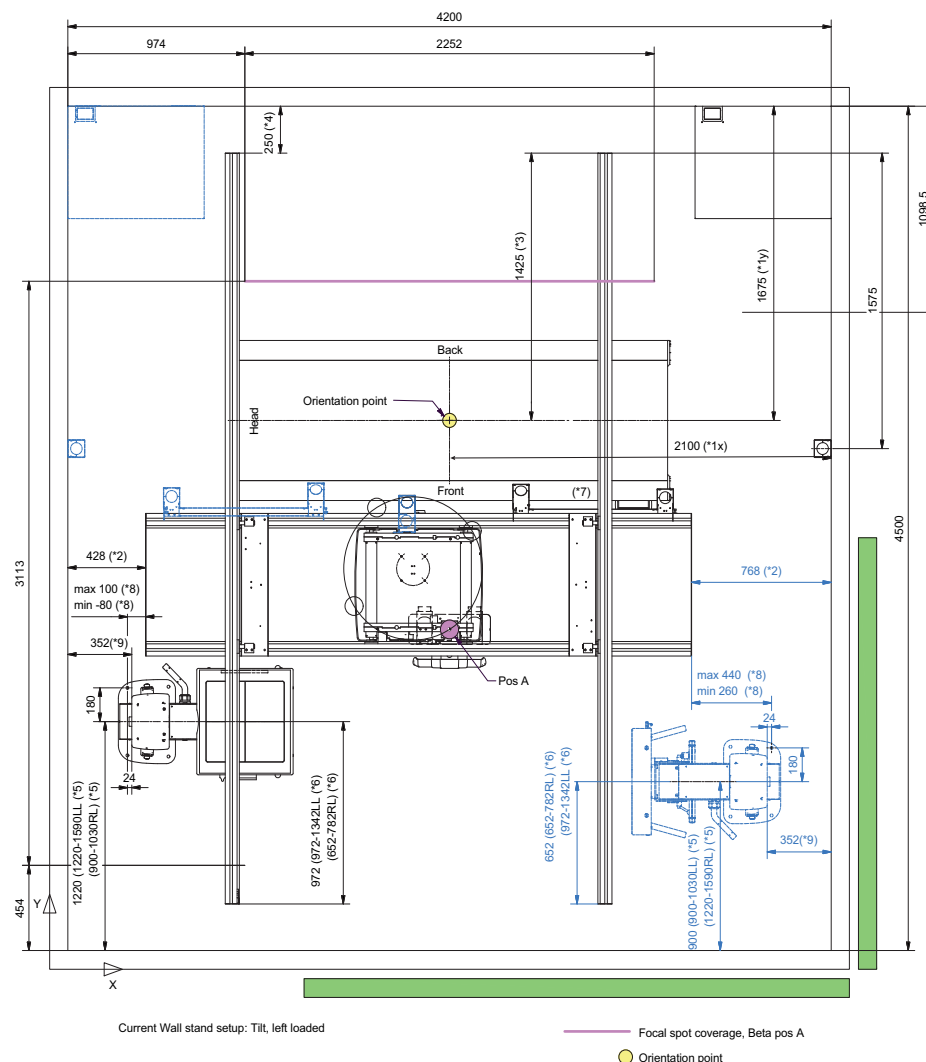

Figure 5-1
A 0180, Variant 4C installed in a room with similar size and with the components placed as described in Figure 5-1, usually requires 16m cable length, which also is the standard configuration, see also System Connections in chapter 5.
- **(*2)** is chosen due to the room size in layout 1 (*Fig. 5-1*) and centers the focal spot coverage area in X-direction related to the room and table. **(*2)** must not be less than 100 mm.
- **(*5)** is chosen to give the operator enough space to work freely with the ceiling suspended unit and the wall stand (see also **(*6)**). It's allowed to mount arm rest on both sides when those min and max dimensions are withheld. Both left hand load detector holder (LL) and right hand load detector holder (RL) are described with min and max dimensions.